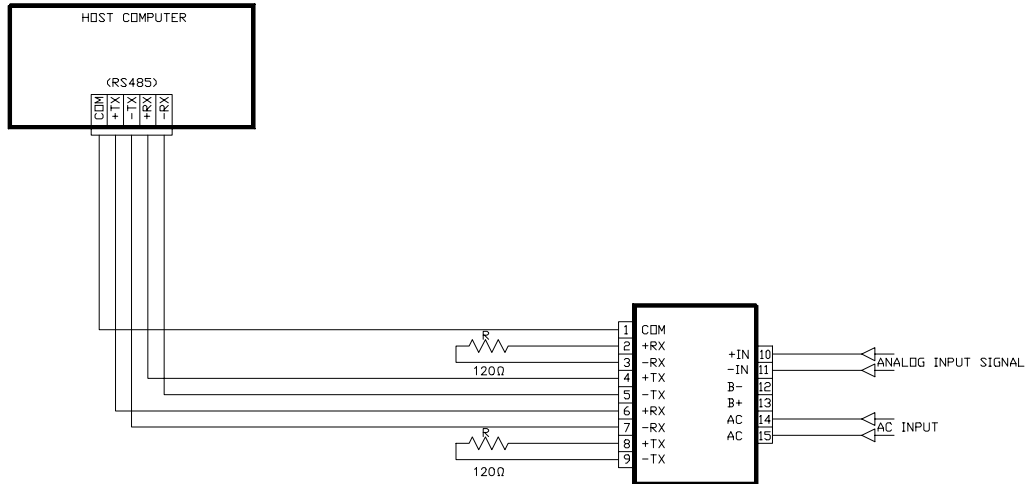

FIGURE 4.
2. REFER TO FIGURE 3 FOR A SINGLE UNIT RS485 COMMUNICATION HOOK UP AND TO FIGURE 4 FOR MULTIPLE UNIT HOOK UP.